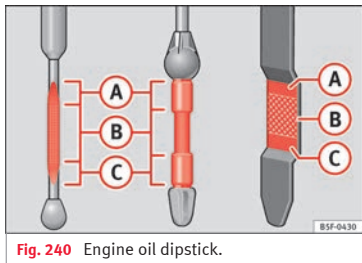

Fig. 240 Engine oil dipstick.
- Then pull it out once more and check the oil level »» **Fig. 240**. Top up with engine oil if necessary.
If the oil level is above area » Fig. 240 (A), do not start the engine. This could result in damage to the engine and catalytic converter. Contact a specialised workshop.
The oil level must never be above area » Fig. 240 (A). Otherwise oil can be drawn in through the crankcase breather and escape into the atmosphere via the exhaust system.